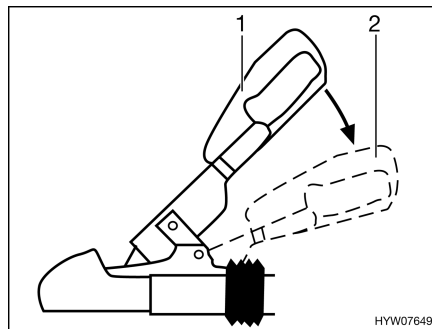

Fig. 99 Stabilising handle
- Activate the stabilising mechanism. To do this, press the coupling handle downwards (Fig. 99, 2) from the closed position (Fig. 99, 1) to its stop limit.